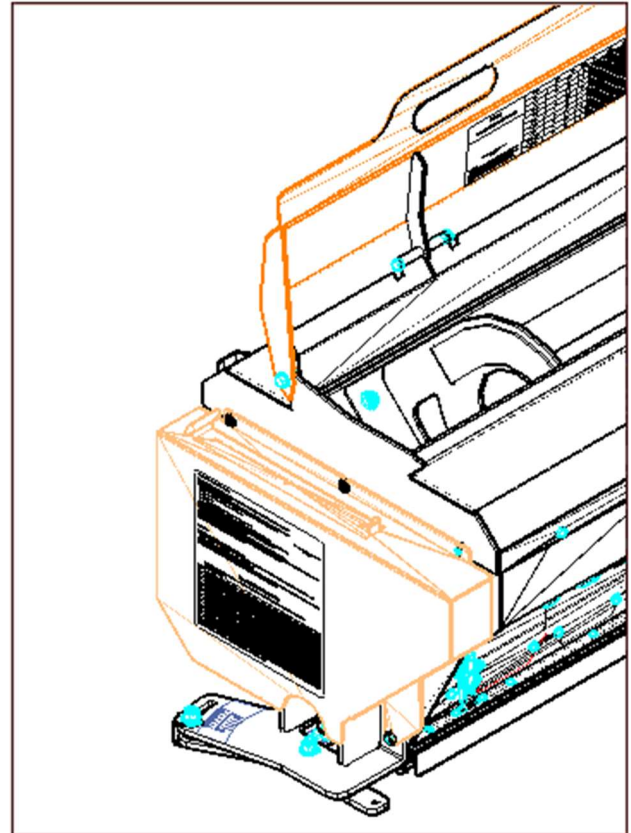
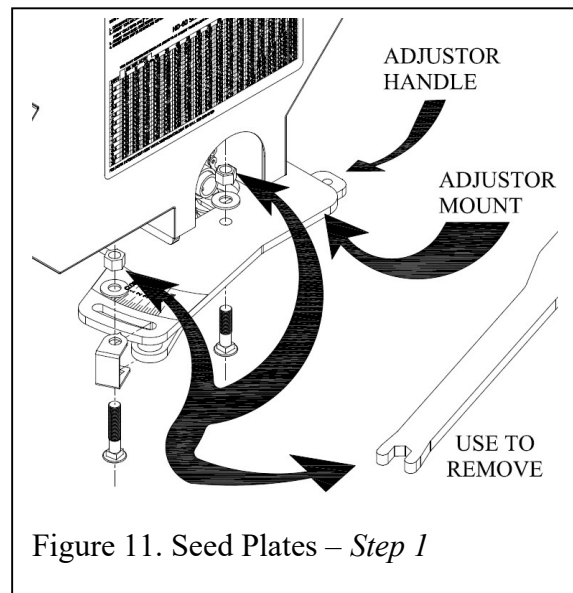

Figure 9. Quick Start Setting Guide - Step 3
Figure 11. Seed Plates – Step 1
Determine the seed plates needed to achieve the desired seed rate. The seed plates come in four different sizes identified with laser etching on one end. Figure 9 displays a Quick Start Setting Guide. This chart is used as a point of reference
1. To change plates you will need two 9/16" wrenches and the Adjuster Wrench, DS27-026. Using the small end of the Adjuster Wrench, located on top of chain cover as shown in Figure 9. Loosen and remove the two 1/2" carriage head bolts connecting the adjuster handle to the Adjuster mount as shown Figure 11.
- Reattach the Adjuster Handle to the Adjuster Mount as shown in Figure 11, and fasten bolts.